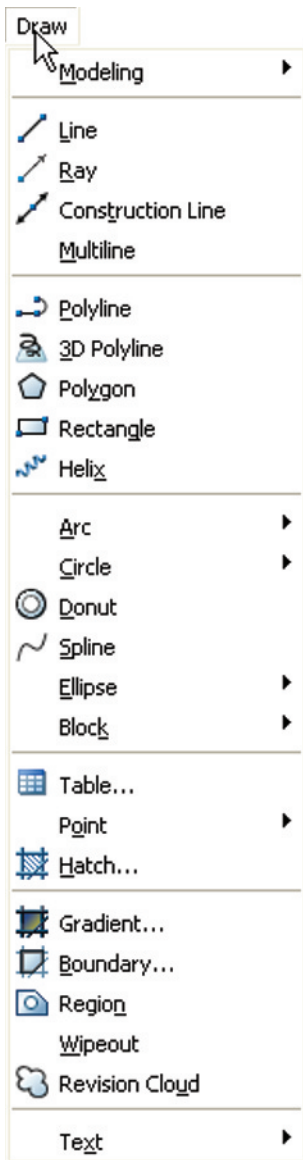

Fig. 3.1 The tool names in the **Draw** drop-down menu
3. By *clicking* on the tool's name in an appropriate drop-down menu. Fig. 3.1 shows the tool names displayed in the **Draw** drop-down menu.